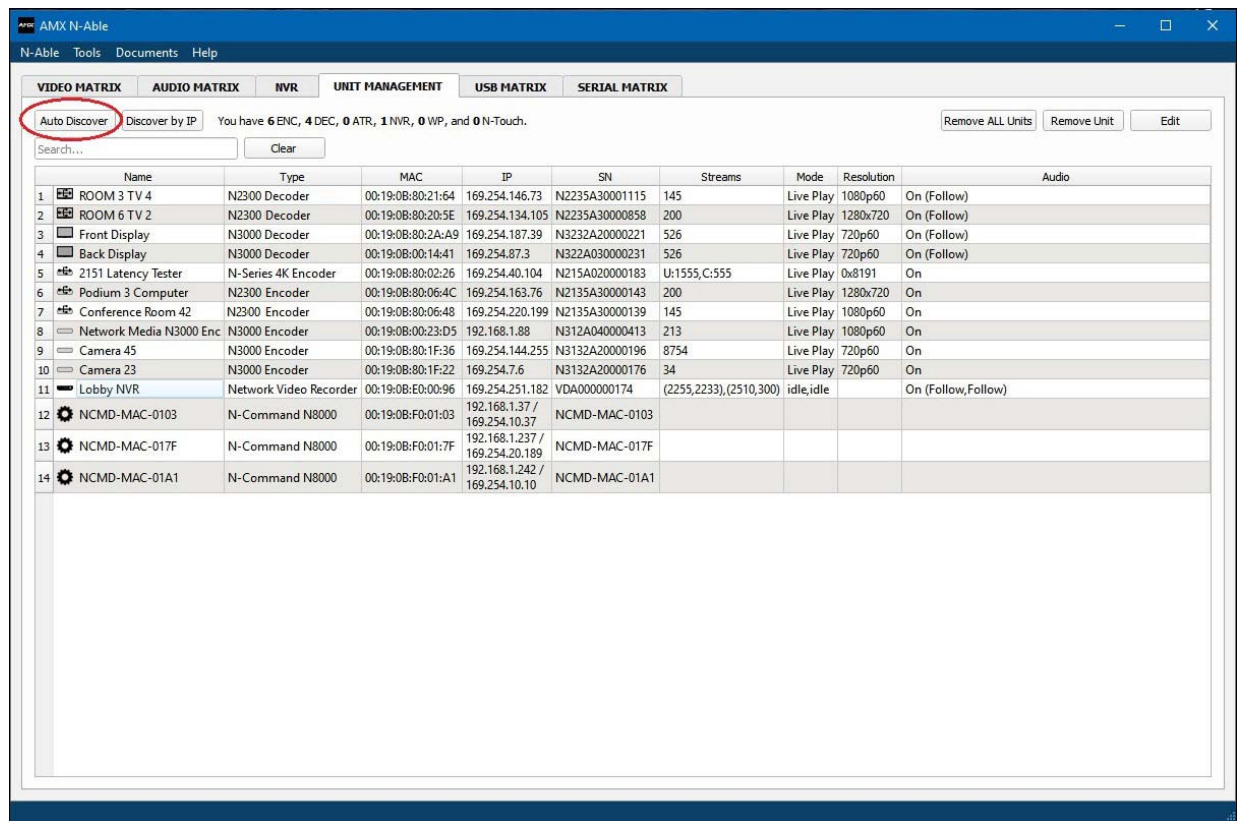

FIG. 10 Unit Management Page
- In **N-Able**, select the **Unit Management** tab and click the **Auto Discover** button (if the table has not already populated itself with the installed units). See Figure 10.